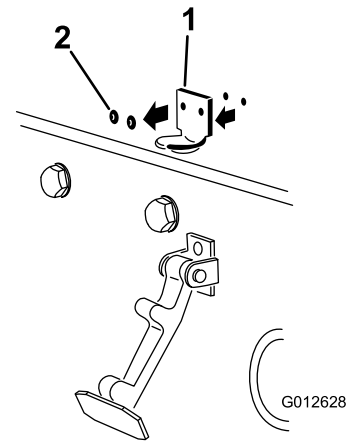

Figure 34
2. Remove the 2 rivets securing the hood-latch bracket to the hood (Figure 34).
Note: The lock bracket must be against the hood (Figure 34).